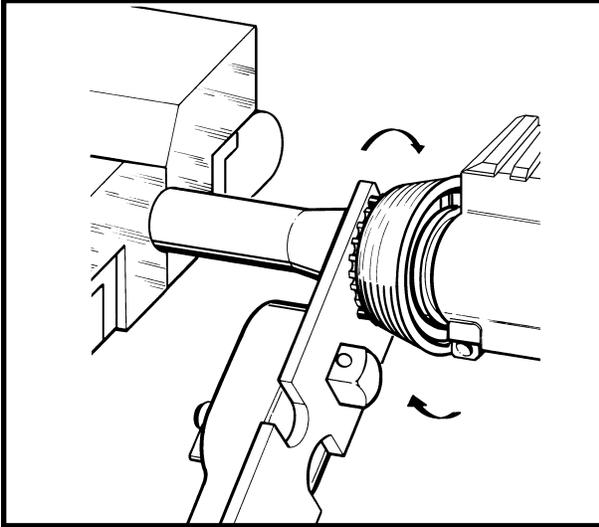

Figure 3-2-14 Unscrewing the Barrel Nut
- (1) Clamp the barrel in a vise equipped with vise jaw caps to ensure an adequate grip without damage to the barrel; and
- (2) Using the combination wrench and a 1/2 inch drive ratchet, unscrew the barrel nut assembly in a counter-clockwise direction, as viewed from the front. See Figure 3-2-14.